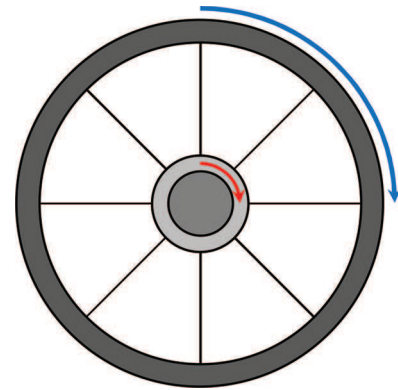

Figure 14
- The distance moved at the outside of the wheel is greater than the distance moved at the axle. You can see this on Figure 14, where the distance moved at the outside of the wheel is shown in blue, and the distance moved at the axle is shown in red. For the same forwards movement, a bigger wheel will give a smaller movement at the axle. Therefore big wheels give less rubbing or friction at the axle.